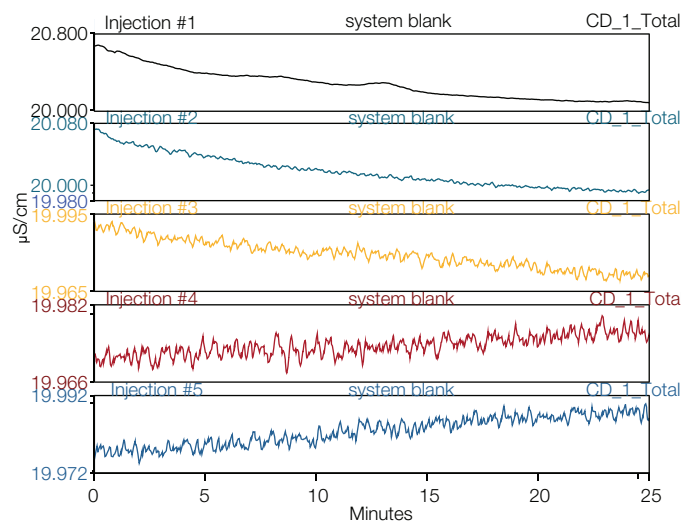

Figure 2. Chromatograms of system blanks on a Dionex™ IonPac™ AS23 column.
8. Run system blanks (Figure 2) under the conditions listed in Table 1 until the background conductivity is $\leq 20 \mu\text{S}$ and noise is $\leq 5 \text{ nS}$.